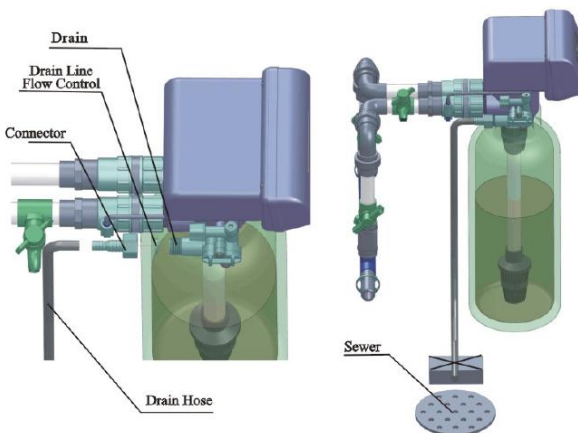

Figure1-4
- If the valve belongs to time clock type, there are no step ② and ③.
⑤ Install drain pipeline
- As the Figure 1-4 shows, slide the drain hose connector into drain outlet.
- Locate the drain hose well as the Figure1-4 show.
●Be sure not connect drain with sewer, and leave a certain space between them, avoid wastewater be absorbing to the water treatment equipment, such as showed in the Figure1-4.